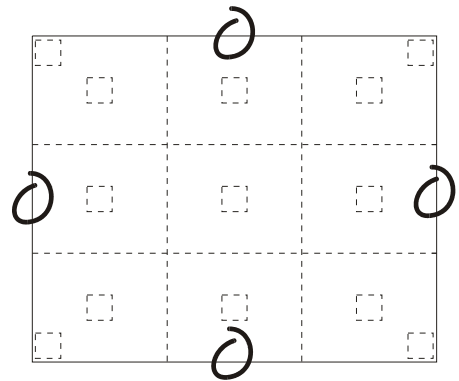

Figure 3-16 13-Point Test Pattern
3. Select the 13-Point test pattern for Full White for display. The 13-Point test pattern provides nine screen “zones” with 13 targets, see **Figure 3-16**.